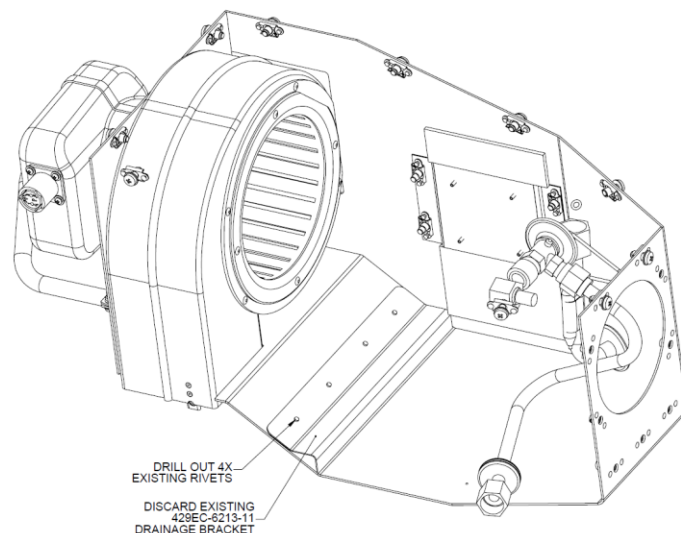

Figure 7: Remove 429EC-6213-11 Drainage Bracket
- 4) Remove (4X) MS20470AD3-4 rivets and 429EC-6213-11 drainage bracket from evaporator enclosure and discard. (Figure 7)